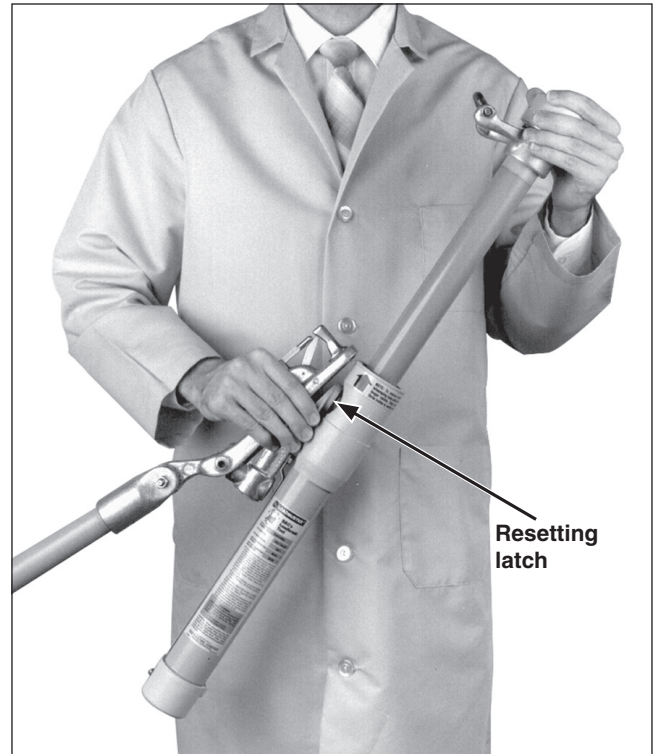

Figure 8. Resetting Loadbuster.
**Step 5** To reset Loadbuster for the next operation, hold as shown in Figure 8. Extend the tool slightly and lift the resetting latch with the thumb. With the latch up, press down on the inner tube assembly until the tool is closed completely so the trigger can reset itself. When reset properly, the orange paint on the inner tube assembly will no longer be visible. Check for proper resetting by extending the tool about three inches (77 mm). Throughout this travel an increasing spring resistance should be felt.